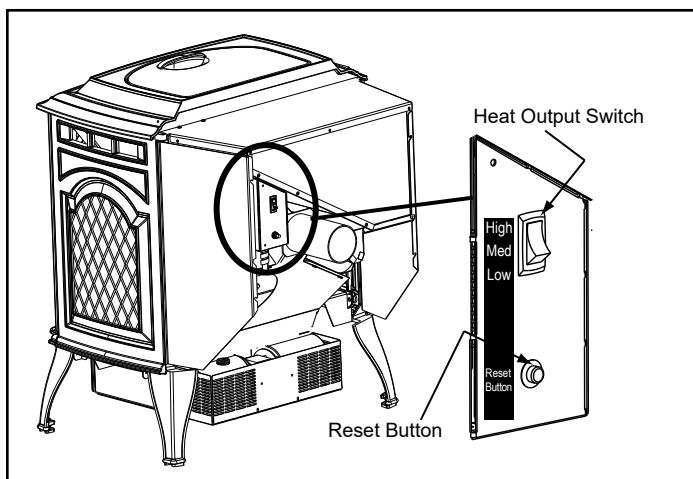
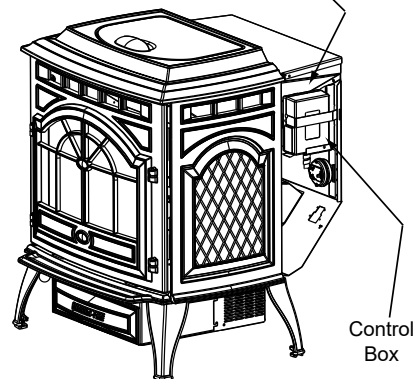

Figure 10.1
Figure 10.2
2. **Heat Output Controls:** This appliance is equipped with a heat output control switch that has three settings or burn rates; low, medium and high. The appliance will turn on and off as the thermostat demands. When the thermostat calls for heat, the appliance will start up at the burn rate for which it is set. If the appliance is set at one of the lower settings, it will run quieter but take longer to heat up an area than if it were set at a higher burn rate. Regardless of the burn rate, when the area is warm enough to satisfy the thermostat, the appliance will shut off (Figure 10.1).
3. Locate the heat output control switch mounted on the back of the appliance in the upper right corner (**Figure 10.2**). Turn it to the "high" setting by pushing the top of the control switch in and then adjust the thermostat to its highest setting. Remove the right side panel and the red call light located to the left of the control box will be on (**Figure 10.2**). This indicates the thermostat is calling for heat.
3. Occasionally the appliance may run out of fuel and shut itself down. When this happens, the red call light will be on (**Figure 10.2 on page 10**). To restart it, fill the hopper and press the reset button (**Figure 10.1, page 10**). When you press the reset button the red call light will go out. Release the button and the light will come back on. You should see a fire shortly. If not, follow **Starting Your First Fire** on page 10.